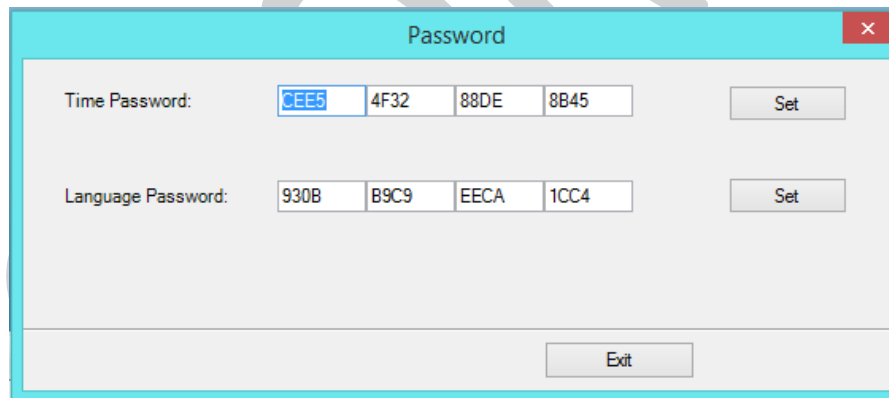

Fig 19: The Password Window
Step 2: Feed Password in the **Time Password** field (Refer to Fig 19).
Step 3: After feeding the passwords, click on the **Set** button (Refer to Fig 19).
Step 4: Click on the **Exit** button to close the **Password** window (Refer to Fig 19).
- Password Screen (Refer to Fig 19)